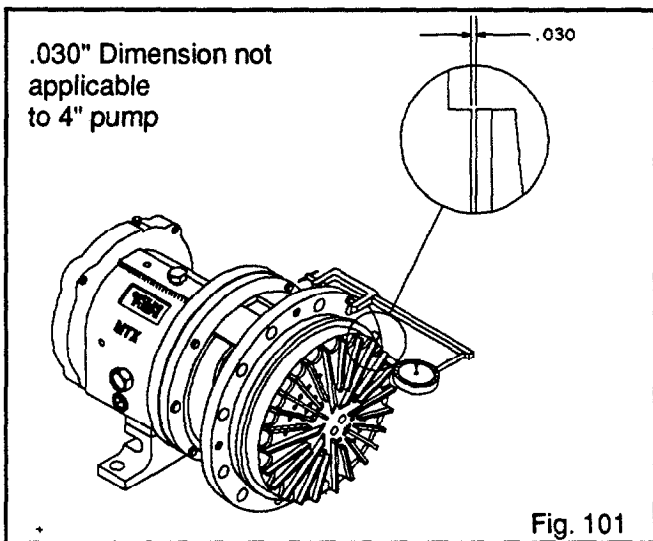

Fig. 101
6. Check impeller runout. Check vane tip to vane tip. Total indicator reading greater than 0.005 in. (.13 mm) indicates a problem (Fig. 101).